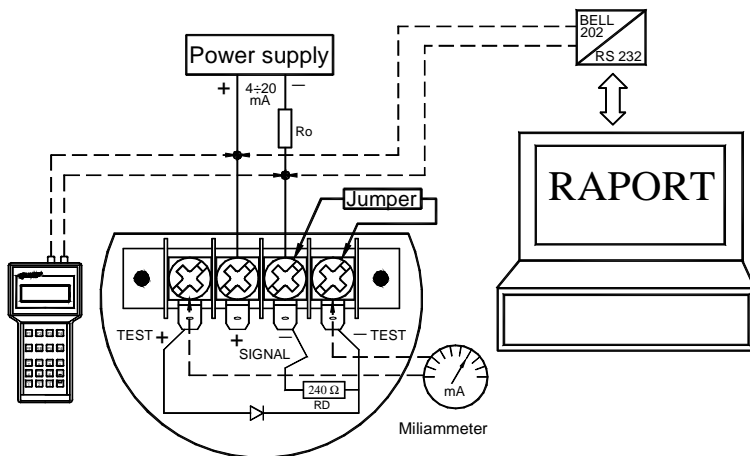
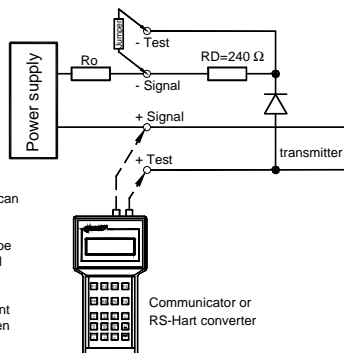

Fig. 10a
Fig. 10b
For execution of electrical connections of transmitters **APC(R)-2000ALW Safety** see Fig. 10. Resistor 240 Ω is serially integrated, permanently, in the current circuit of transmitter and shorted with jumper on connection terminals between <SIGNAL-> and <TEST->, see Fig. 10b. To use the that resistor in Hart communication, e.g. in the event of too low resistance in measurement loop, the jumper is to be removed.
1. When resistance seen from transmitter to the line is $R_o > 250 \Omega$, then we can communicate with the transducer via connection to line "Signal +" and "Signal -", see Fig.10a. (R_o = line resistance+load).
2. When $R_o < 250 \Omega$ communication shall not be established, and R_o is to be increased to min. 250 Ω as in Fig.10a. Transmitter is fitted with additional communication resistor $R_D = 240 \Omega$ (Fig.10b). (During normal operation terminals "Signal -" and "Test -" are to be together, not to introduce additional resistance from line circuits). Resistor R_D is used when we want to establish local communication with transducer (from its terminals), when $R_o < 250 \Omega$. (Then terminals "Signal -" and "Test -" are to be apart).